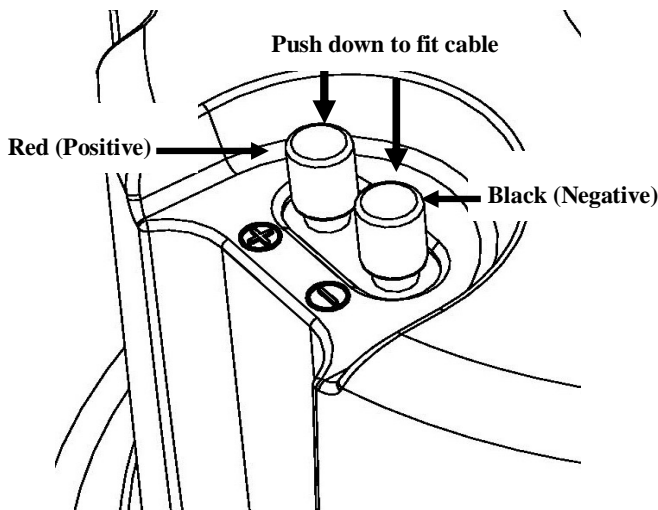
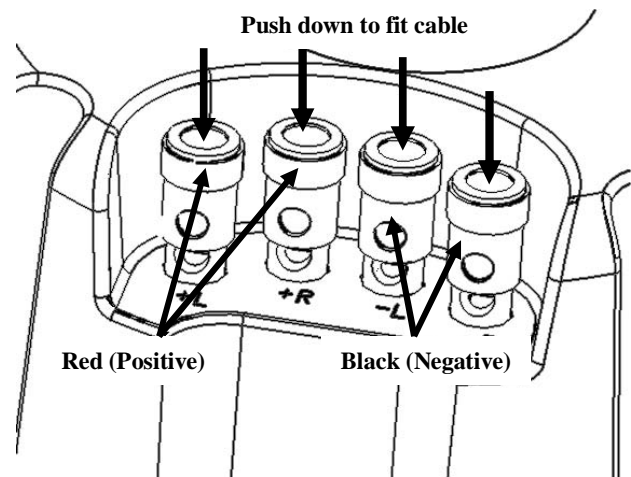

Fig 3
Fig 4
4. Locate speaker cable and connect by pushing the terminals in and releasing to clamp the cables as shown below Fig 3 for Radius, BR, RS & GS In-Ceiling Products and Fig 4 for Radius Stereo In-Ceiling.